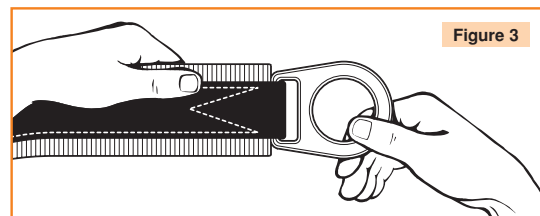

Figure 3
- 3. Inspect D-rings.** Check all D-rings for distortion. Check D-ring attachment points for unusual wear or damaged fibers. Badly pitted D-rings indicate chemical corrosion, and they should fail inspection. (See Fig. 3 and 4)